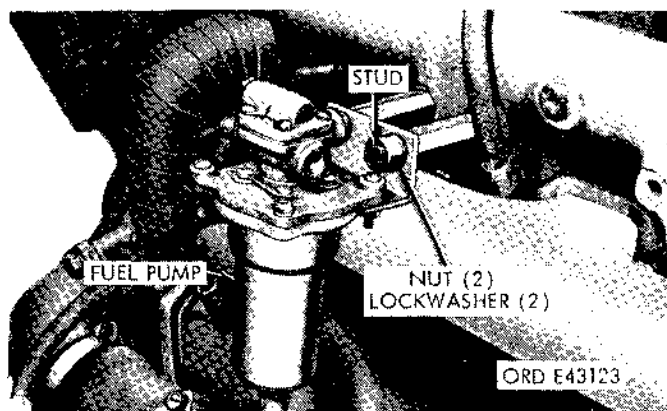

Figure 2-106. Removing manifold heater fuel pump.
(3) Remove the two nuts and lockwashers (fig. 2-106) securing the pump assembly to the mounting studs. Remove pump.
(1) Mount the pump on studs, and secure it with two lockwashers and nuts (fig. 2-106).